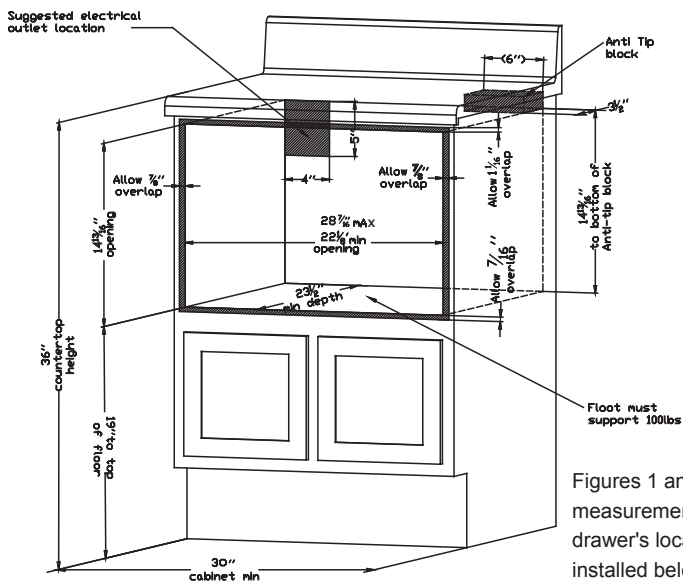
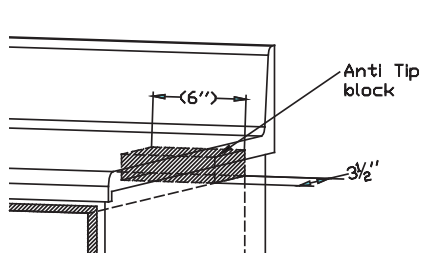

Figure 1
Figure 3
For SAFETY CONSIDERATIONS do not install drawer in any combustible cabinetry, which is not in accord with the stated clearances and dimensions on pages 2 and 3. See Figure 1.
*Dimensions that are shown in Figure 1 must be used. Given dimensions provide minimum clearance. Locate electrical outlet in the shaded area in the upper left-hand corner of the cutout. See Figure 3.
Figures 1 and 2 contain many Microwave Drawer measurements for reference when planning the drawer's location .This Microwave Drawer can be installed below any electric or gas wall oven.
To reduce the risk of tipping of the drawer, the Anti-Tip block must be properly installed located 14 13/16-inches above the floor on which the Microwave Drawer will sit. The 6-inch Anti-Tip block must be provided by the installer. See Figures 1 and 3. The Anti-Tip block prevents serious injury that might result from spilled hot liquids.